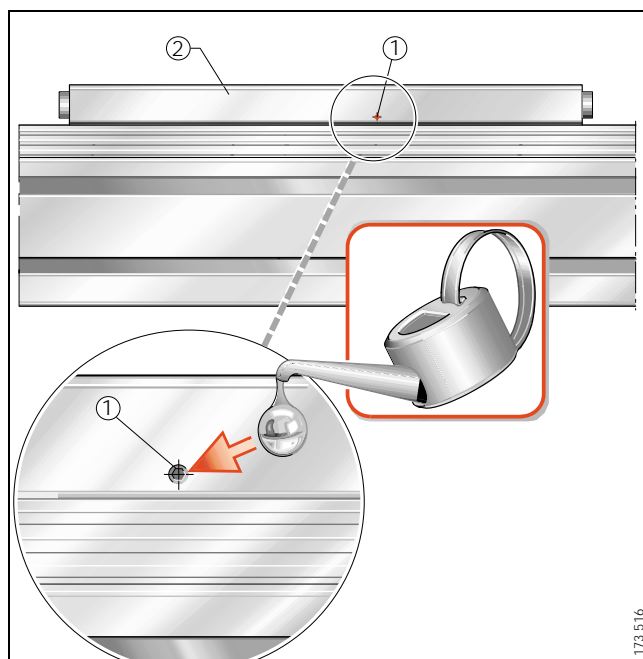

Figure 3 · Lubrication points – MLFI 50 086 B ZR
Relubrication should preferably be carried out with several partial quantities at various times instead of the complete quantity at the time of the relubrication interval. The support rail raceway is lubricated by an oil-soaked felt insert. Relubrication is carried out via two lubrication holes ① on the longitudinal faces of the carriages ② (Figure 3). Relubrication can therefore be carried out from either the left or right side of the carriage.